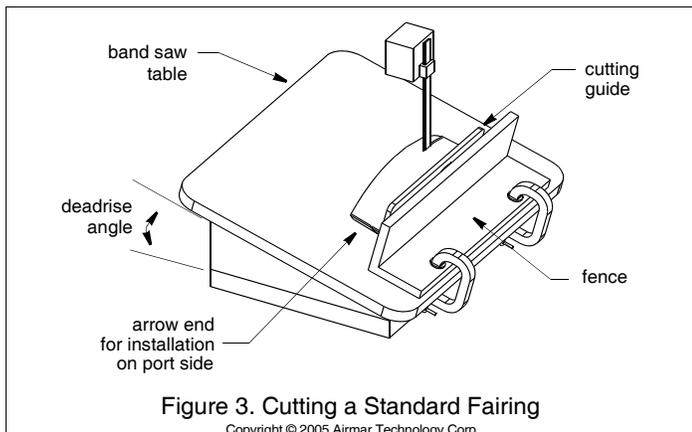

Figure 3. Cutting a Standard Fairing
2. Tilt the band saw table to the measured angle and secure the cutting fence (see Figure 3).
3. Place the fairing on the table so the cutting guide rests against the fence. The arrow will be pointing toward you for installation on the port side and away from you for installation on the starboard side of the boat (see Figures 3 and 4).